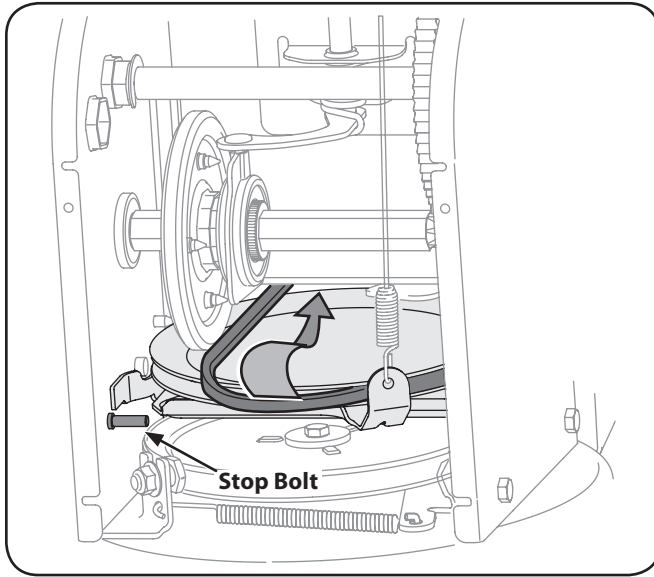

Figure 7-7
6. Back out the stop bolt to increase the clearance between the friction wheel disc and friction wheel. See Figure 7-7.
7. Slip the drive belt off the pulley and between friction wheel and friction wheel disc. See Figure 7-7.